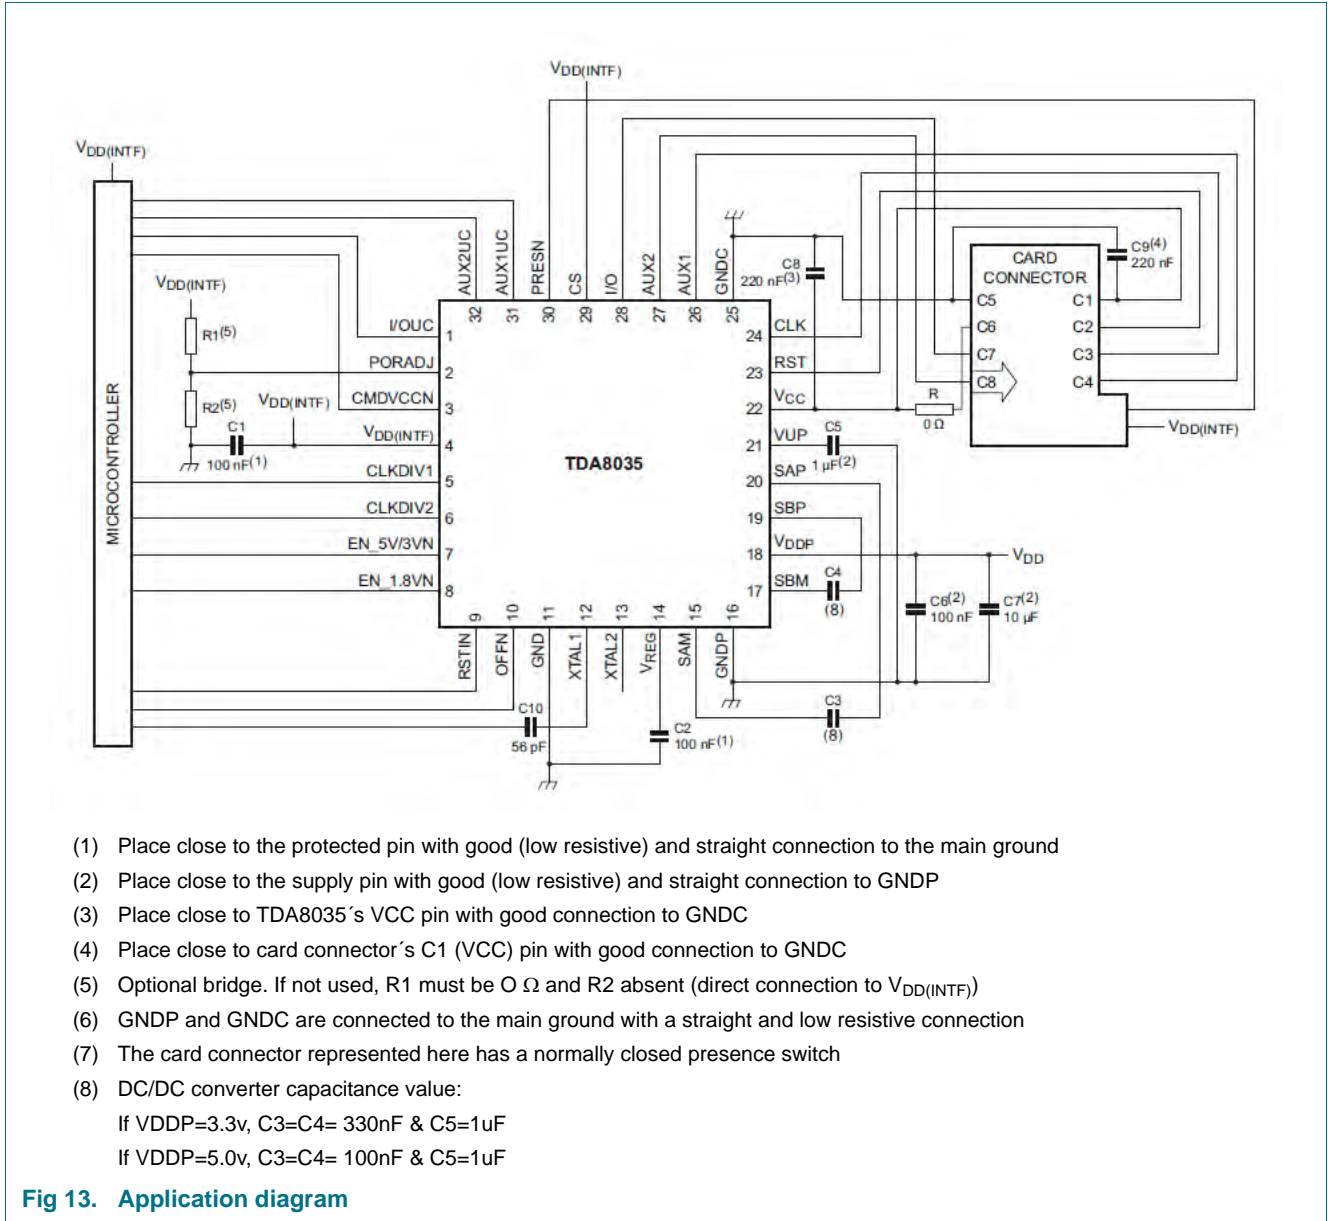

Fig 13. Application diagram
Modifications:	<ul style="list-style-type: none"> Table 3 "Pin description": updated Section 8.1 "Power supply": updated Table 7 "Characteristics of IC": updated Figure 13 "Application diagram": Table note (7) added